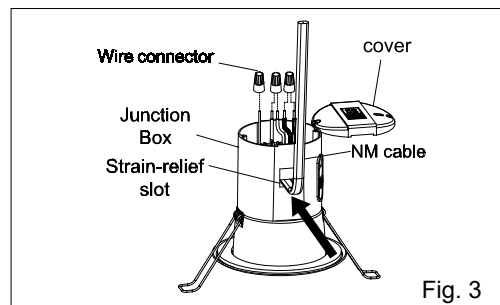

Fig. 3
- Loosen one of the Phillips head screws on the junction box cover and swivel the cover open. Insert 5"-6" of the NM cable into the junction box through one of the provided strain-relief slots (Fig. 3).
- Remove at least 3" of the cable's outer sheath and remove the plastic or paper over-wrap. Strip approximately 3/8" of insulation from the ends of all supply wires. Using the wire connectors, make the following wire connections within the junction box (Fig. 3). **NOTE:** This fixture does not require a ground wire. Secure supply ground wire end(s) together with a wire connector.